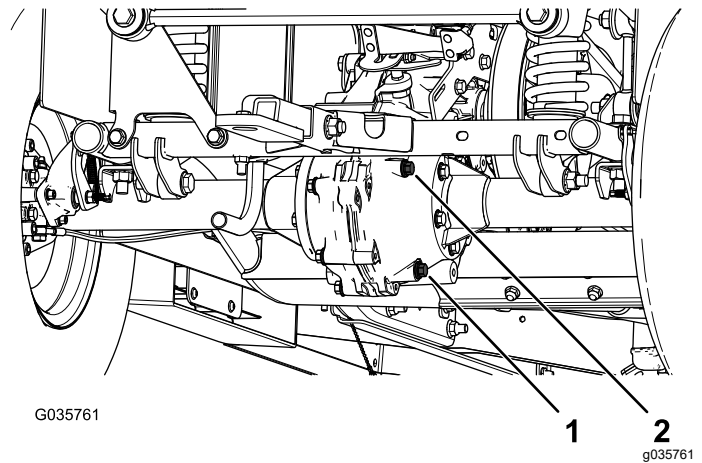

Figure 56
2. Remove the fill plug on the transaxle (Figure 56).
3. If the fluid level is low, remove the fill plug and add the specified fluid until it runs out of the hole (Figure 56).
1. Align a drain pan under the drain plug (Figure 56).
2. Remove the fill plug and the seal (Figure 56).
3. Remove the drain plug and the seal, and allow the fluid to drain completely (Figure 56).